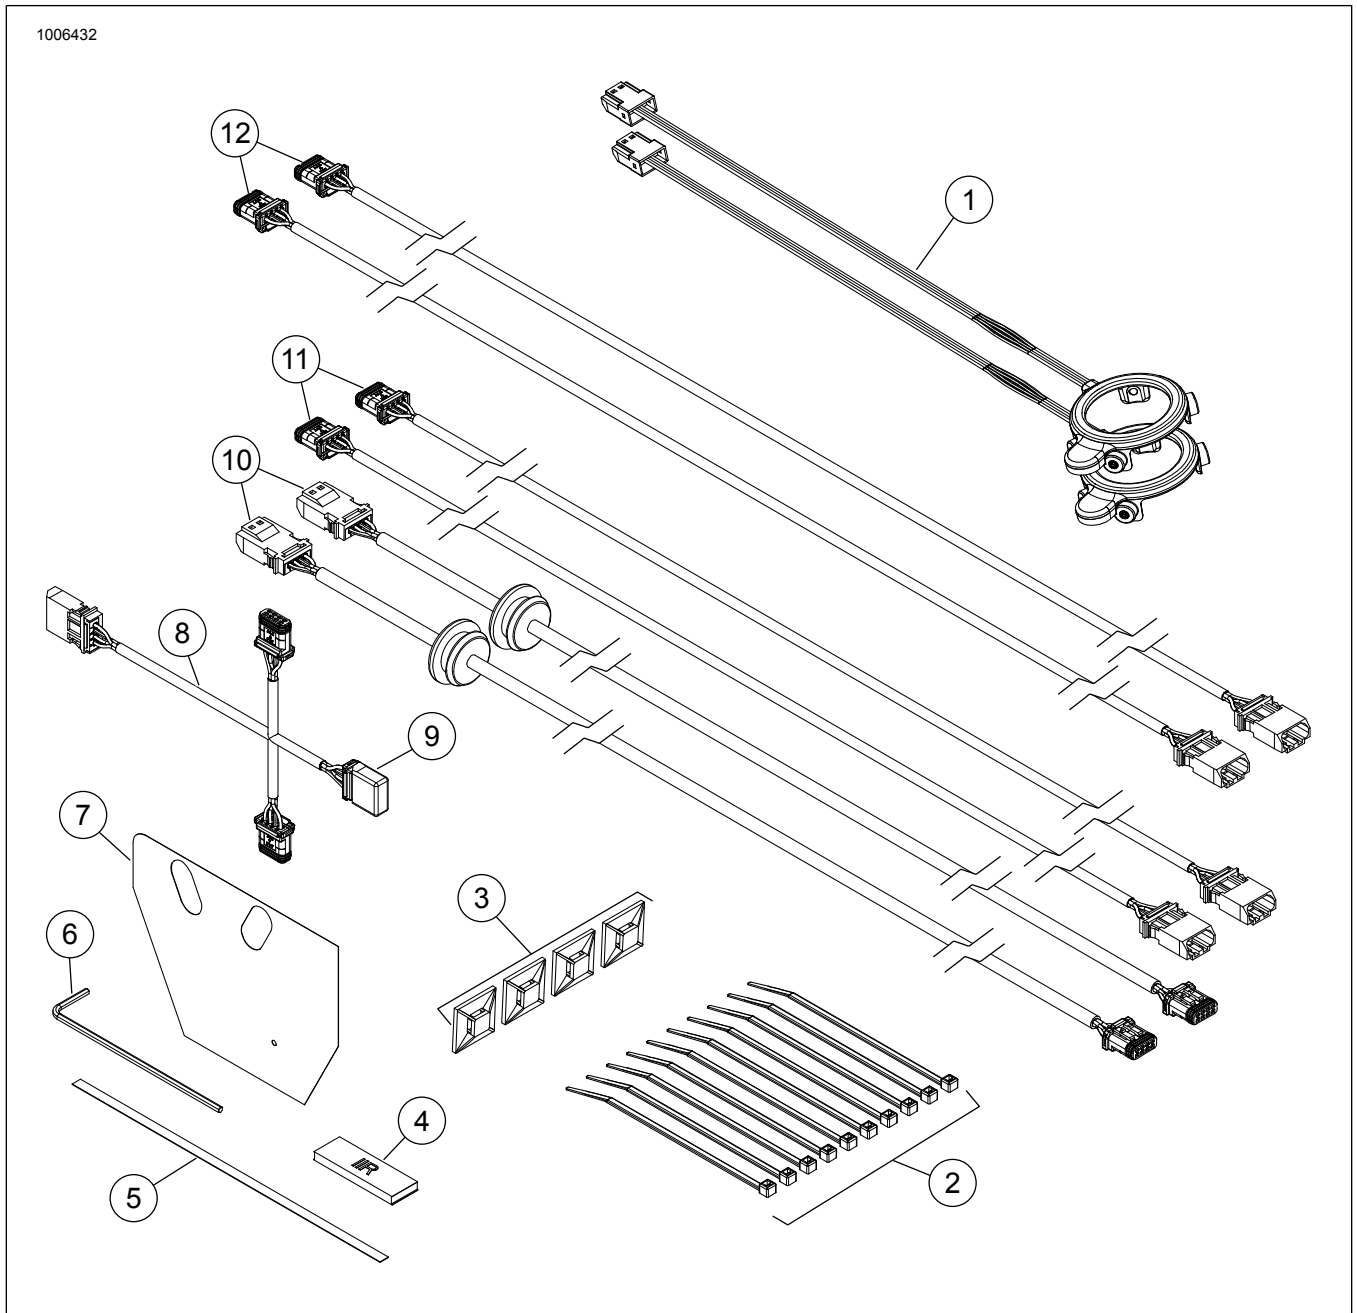

Figure 31. Service Parts, Stage I Speaker R/G/B/ LED Light Kits
See Figure 31. and Table 1. Connect and route 48-in. harness (12) from LED R/G/B controller toward the saddlebags. Connect 3-way harness (8) to speaker connections.
See Figure 31. and Table 1. Slide the grommet about 6 in (15 cm) from the male end of the harness (10).
See Figure 31. and Table 1. Connect and route 48-in. harness (12) from LED R/G/B controller toward the body speakers. Connect 3-way harness (8) to speaker connections.